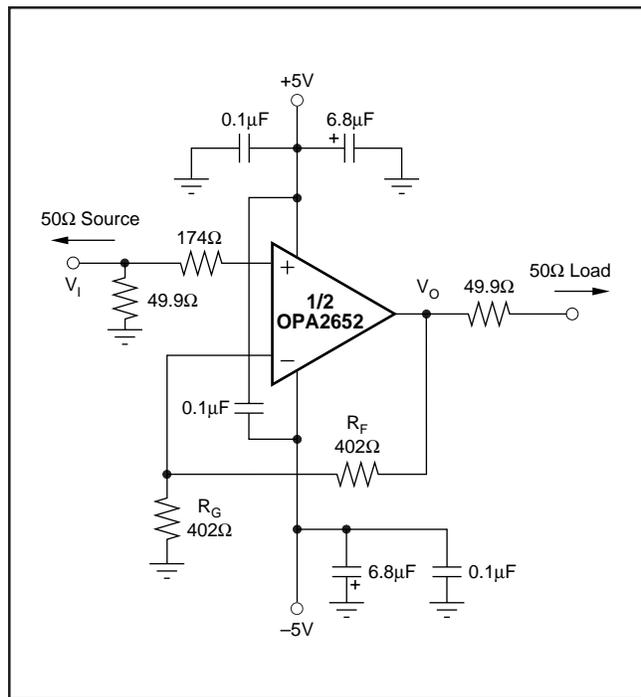
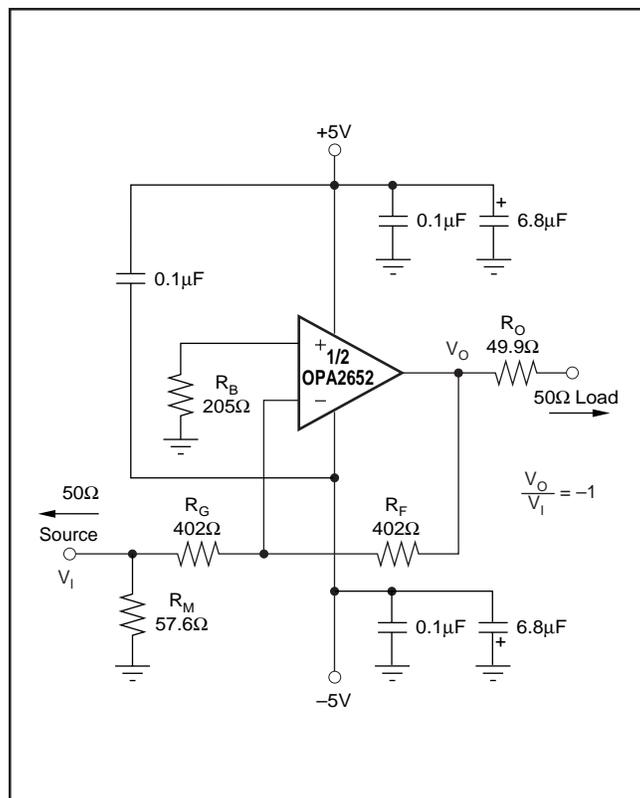

FIGURE 1. DC-Coupled,  $G = +2$ , Bipolar Supply, Specification and Test Circuit.
FIGURE 2. DC-Coupled,  $G = -1$ , Bipolar Supply, Specification and Test Circuit.
At  $T_A = +25^\circ C$ ,  $G = +2$ ,  $R_F = 402\Omega$ , and  $R_L = 100\Omega$ , unless otherwise noted. See Figures 1 and 2.
Figure 1 shows the DC-coupled, gain of +2, dual power supply circuit configuration used as the basis of the  $\pm 5\text{V}$  Specifications and Typical Performance Curves. This is for one channel. The other channel is connected similarly. For test purposes, the input impedance is set to  $50\Omega$  with a resistor to ground and the output impedance is set to  $50\Omega$  with a series output resistor. Voltage swings reported in the specifications are taken directly at the input and output pins, while output powers (dBm) are at the matched  $50\Omega$  load. For the circuit of Figure 1, the total effective load will be  $100\Omega \parallel 804\Omega$ . Two optional components are included in Figure 1.
Figure 2 shows the DC-coupled gain of  $-1$ , bipolar supply circuit configuration which is the basis of the Specifications and Typical Performance Curves at  $G = -1$ . The input impedance matching resistor ( $57.6\Omega$ ) used for testing gives a  $50\Omega$  input load. A resistor ( $205\Omega$ ) connects the non-inverting input to ground. This provides the DC source resistance matching to cancel outputs errors due to input bias current.
A good rule of thumb is to target the parallel combination of  $R_F$  and  $R_G$  (Figure 1) to be less than approximately 300Ω. The combined impedance  $R_F \parallel R_G$  interacts with the inverting input capacitance, placing an additional pole in the feedback network, and thus a zero in the forward response. Assuming a 2pF total parasitic on the inverting node, holding  $R_F \parallel R_G < 300\Omega$  will keep this pole above 250MHz. By itself, this constraint implies that the feedback resistor  $R_F$  can increase to several kΩ at high gains. This is acceptable as long as the pole formed by  $R_F$  and any parasitic capacitance appearing in parallel is kept out of the frequency range of interest.
Voltage feedback op amps exhibit decreasing closed-loop bandwidth as the signal gain is increased. In theory, this relationship is described by the Gain Bandwidth Product (GBP) shown in the specifications. Ideally, dividing GBP by the non-inverting signal gain (also called the Noise Gain, or NG) will predict the closed-loop bandwidth. In practice, this only holds true when the phase margin approaches  $90^\circ$ , as it does in high gain configurations. At low gains (increased feedback factor), most amplifiers will exhibit a wider bandwidth and lower phase margin. The OPA2652 is compensated to give a flat response in a non-inverting gain of 1 (Figure 1). This results in a typical gain of +1 bandwidth of 700MHz, far exceeding that predicted by dividing the 200MHz GBP by  $NG = 1$ . Increasing the gain will cause the phase margin to approach  $90^\circ$  and the bandwidth to more closely approach the predicted value of  $(GBP/NG)$ . At a gain of +5, the 45MHz bandwidth shown in the Typical Specifications is close to that predicted using this simple formula.
Since the OPA2652 is a general purpose, wideband voltage feedback op amp, all of the familiar op amp application circuits are available to the designer. Inverting operation is one of the more common requirements and offers several performance benefits. Figure 2 shows a typical inverting configuration.
In the inverting configuration, three key design considerations must be noted. The first is that the gain resistor ( $R_G$ ) becomes part of the signal channel input impedance. If input impedance matching is desired (which is beneficial whenever the signal is coupled through a cable, twisted pair, long PC board trace or other transmission line conductor),  $R_G$  may be set equal to the required termination value and  $R_F$  adjusted to give the desired gain. This is the simplest approach and results in optimum bandwidth and noise performance. However, at low inverting gains, the resultant feedback resistor value can present a significant load to the amplifier output. For an inverting gain of  $-1$ , setting  $R_G$  to  $50\Omega$  for input matching eliminates the need for  $R_M$  but requires a  $50\Omega$  feedback resistor. This has the interesting advantage that the noise gain becomes equal to 2 for a  $50\Omega$  source impedance—the same as the non-inverting circuits considered above. However, the amplifier output will now see the  $50\Omega$  feedback resistor in parallel with the external load. In general, the feedback resistor should be limited to the  $200\Omega$  to  $1.5k\Omega$  range. In this case, it is preferable to increase both the  $R_F$  and  $R_G$  values as shown in Figure 2, and then achieve the input matching impedance with a third resistor ( $R_M$ ) to ground. The total input impedance becomes the parallel combination of  $R_G$  and  $R_M$ .
The second major consideration, touched on in the previous paragraph, is that the signal source impedance becomes part of the noise gain equation and influences the bandwidth. For the example in Figure 2, the  $R_M$  value combines in parallel with the external  $50\Omega$  source impedance, yielding an effective
driving impedance of  $50\Omega \parallel 57.6\Omega = 26.8\Omega$ . This impedance is added in series with  $R_G$  for calculating the noise gain (NG). The resultant NG is 1.94 for Figure 2, (an ideal  $0\Omega$  source would cause  $NG = 2.00$ ).
The third important consideration in inverting amplifier design is setting the bias current cancellation resistor on the non-inverting input ( $R_B$ ). If this resistor is set equal to the total DC resistance looking out of the inverting node, the output DC error, due to the input bias currents, will be reduced to  $(\text{Input Offset Current}) \cdot R_F$ . If the  $50\Omega$  source impedance is DC-coupled in Figure 2, the total resistance to ground on the inverting input will be  $429\Omega$ . Combining this in parallel with the feedback resistor gives  $208\Omega$ , which is close to the  $R_B = 205\Omega$  used in Figure 2. To reduce the additional high frequency noise introduced by this resistor, it is sometimes bypassed with a capacitor. As long as  $R_B < 300\Omega$ , the capacitor is not required since its total noise contribution will be much less than that of the op amp's input noise voltage.
The OPA2652 provides good distortion performance into a 100Ω load on ±5V supplies. Increasing the load impedance improves distortion directly. Remember that the total load includes the feedback network; in the non-inverting configuration (Figure 1) this is sum of  $R_F + R_G$ , while in the inverting configuration, it is just  $R_F$ . Also, providing an additional supply decoupling capacitor (0.1μF) between the supply pins (for bipolar operation) improves the 2nd-order distortion slightly (3dB to 6dB).
Evaluating these two equations for the OPA2652 circuit and component values shown in Figure 1 will give a total output spot noise voltage of  $17\text{nV}/\sqrt{\text{Hz}}$  and a total equivalent input spot noise voltage of  $8.4\text{nV}/\sqrt{\text{Hz}}$ . This is including the noise added by the bias current cancellation resistor (205Ω) on the non-inverting input. This total input-referred spot noise voltage is only slightly higher than the  $8\text{nV}/\sqrt{\text{Hz}}$  specification for the op amp voltage noise alone. This will be the case as long as the impedances appearing at each op amp input are limited to the previously recommend maximum value of 300Ω. Keeping both ( $R_F \parallel R_G$ ) and the non-inverting input source impedance less than 300Ω will satisfy both noise and frequency response flatness considerations. Since the resistor-induced noise is relatively negligible, additional capacitive decoupling across the bias current cancellation resistor ( $R_B$ ) for the inverting op amp configuration of Figure 2 is not required.
The balanced input stage of a wideband voltage feedback op amp allows good output DC accuracy in a wide variety of applications. Although the high speed input stage does require relatively high input bias current (typically 4μA out of each input terminal), the close matching between them may be used to significantly reduce the output DC error caused by this current. This is done by matching the DC source resistances appearing at the two inputs. This reduces the output DC error due to the input bias currents to the offset current times the feedback resistor. Evaluating the configuration of Figure 1, using worst-case +25°C input offset voltage and current specifications, gives a worst-case output offset voltage equal to:
As an example, compute the maximum  $T_J$  using an OPA2652E (SOT23-8 package) in the circuit of Figure 1 operating at the maximum specified ambient temperature of  $+85^{\circ}\text{C}$  and with both outputs driving  $2.5\text{V}_{\text{DC}}$  into a grounded  $100\Omega$  load.